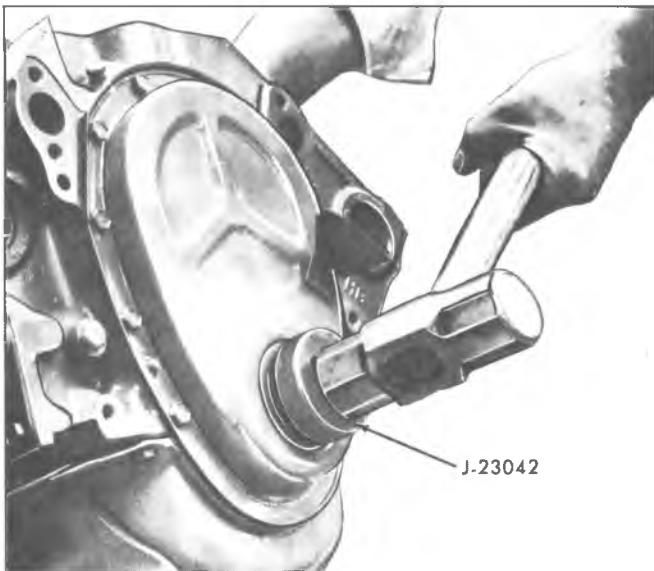

Fig. 22V—Installing Oil Seal (Cover Installed)
2. Install new seal so that open end of seal is toward the inside of cover and drive it into position with Tool J-23042 on Small V8 engines or Tool J-22102 on Mark IV V8 engines (fig. 22V).